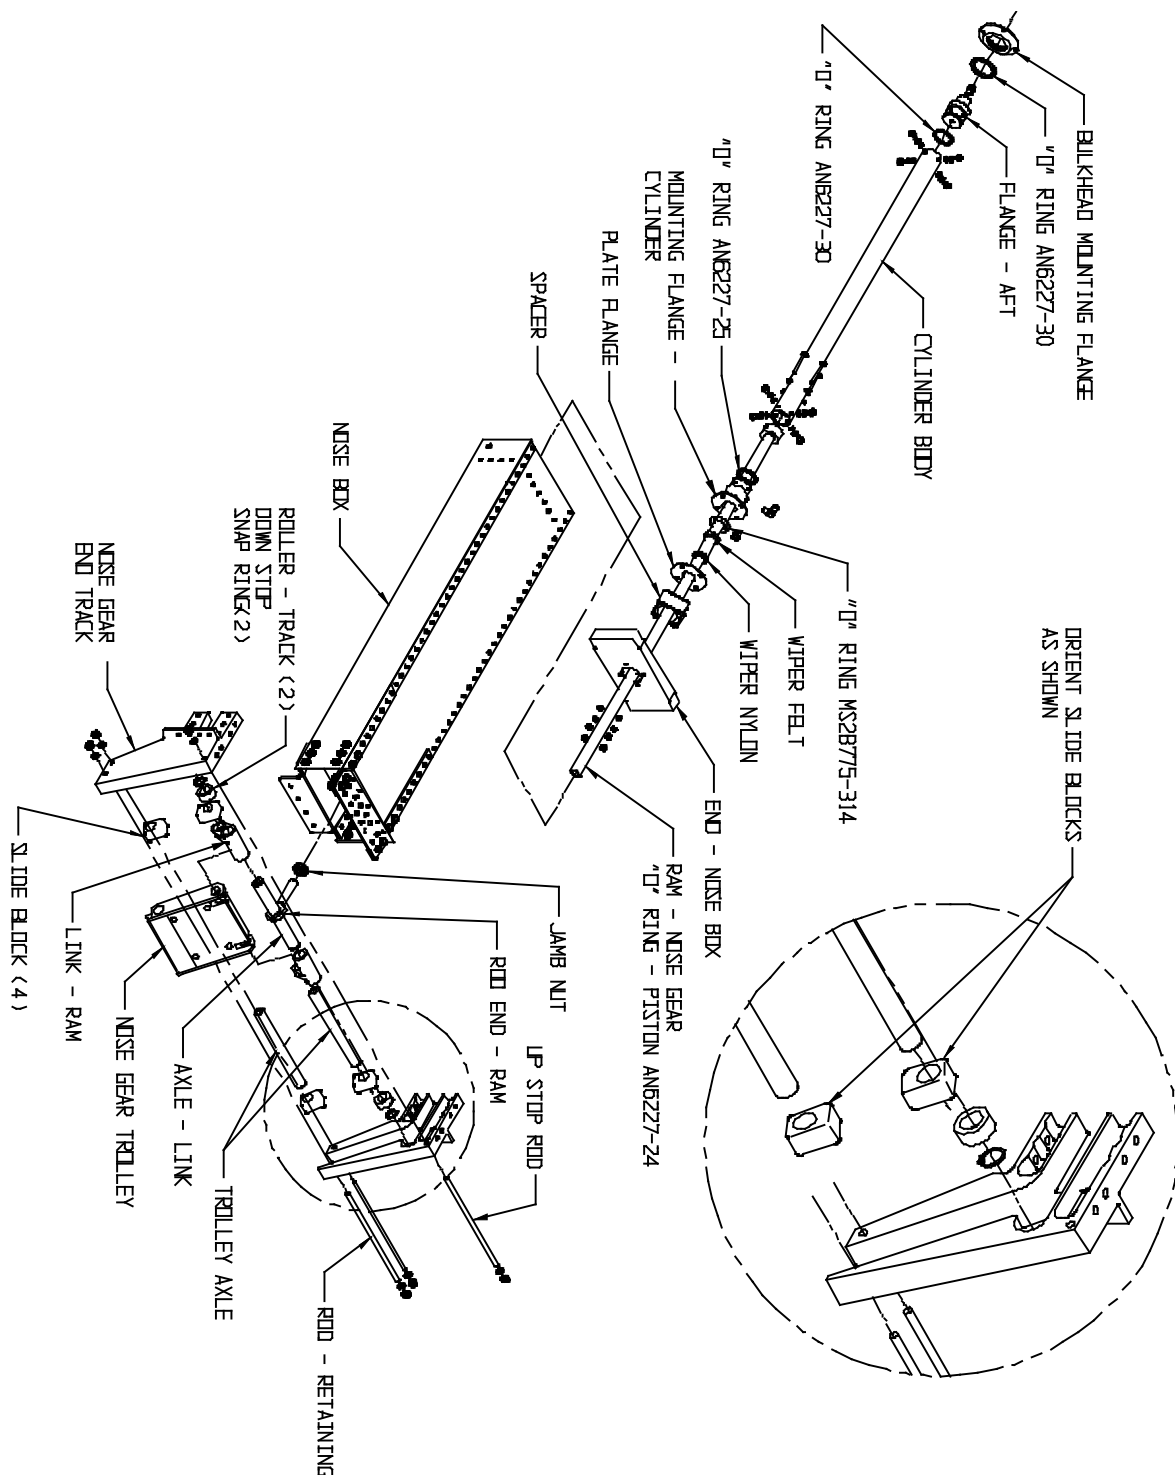

FIGURE 2.9 ASSEMBLY – NOSE GEAR BOX AND RETRACTION
The up stops nests in the up-stop bolt. See figure 2.9 and 2.10 for locations and assembly. Nose gear proximity switches are located on clips that are mounted on the outer cylinder body, one on each end. The most forward switch is for the gear down lights and most aft is for the gear up position lights. Set the proximity switch mounting clip along outer cylinder body to a position such that the light goes out when the over-center track is about 1/4 inch from bottomed position while traveling in the up direction. Lights should come on about 1/8 inch from the bottomed position while traveling in the down direction.
Gear must be in down position. Unbolt the spring from the trolley. Relieve the pressure in system, place gear selector handle in neutral position (lever between up and down), and remove rear hydraulic line. Remove (4) bolts on forward end of cylinder. Drain fluid. Pull aft to expose internal piston rod. Loosen jamb nut on forward side of cylinder ram at rod end. Turn piston from aft side of nose box out of rod end. Push on trolley assembly to unlock and remove the bottom thru-bolts. Slide out of nose box. **Note:** On installation, adjust piston so it bottoms out on aft flange at the same time as the bearings when nose gear is in locked position. Also note orientation of trolley blocks. The side with the most edge distance from hole is to go toward each other on inside of trolley. (See figure 2.9 for details).